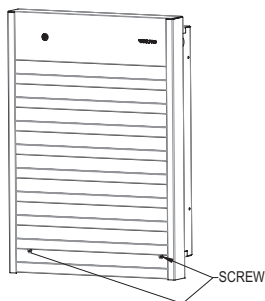
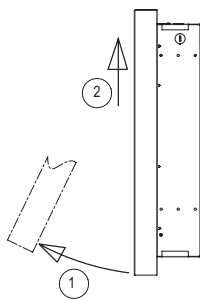

FIG. 4
FIG. 5
2. Unscrewed the two (2) screws holding the grid (see figure 4). Raise the bottom and gently pull up to release the grille (see figure 5).
2. Unscrew the two (2) screws holding the grid (see figure 4). Raise the bottom and pull up to release the grille (see figure 5).